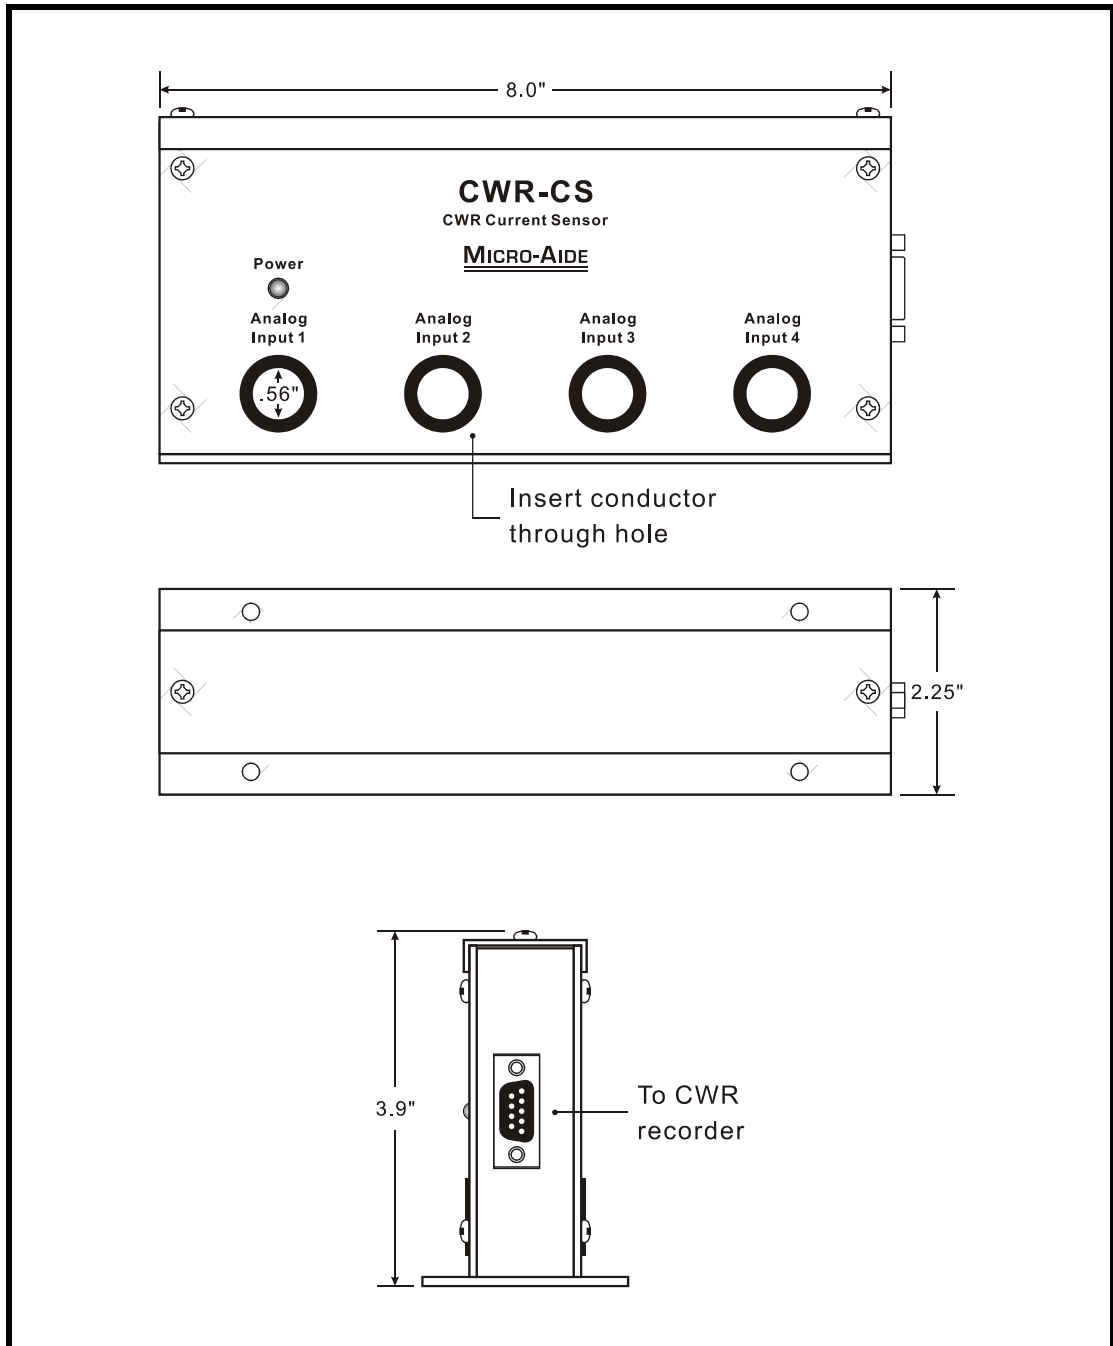

Figure 8 - CWR-CS Front, Top and Side Views
The CWR-CS is an optional accessory that can be used with any MICRO-AIDE CWR series Event Recorder. It is equipped with four general purpose current sensing inputs. Any of the first four Analog Inputs (i.e., A1 - A4) of the CWR-22XL can be individually configured to measure either AC or DC current. Refer to the section entitled “Analog Configuration (A)” on page 23. The CWR-CS provides the hardware by which the voltage sensing Analog Inputs of the recorder are converted to current operation. Figure 8 on page 92 provides an illustration of the CWR-CS.
Figure 8 on page 92 illustrates a typical CWR-CS installation. The unit may be mounted in any orientation (e.g., vertical or horizontal). It is not sensitive to the earth's magnetic field. The base of the unit provides four mounting holes. A shelf or back board makes an ideal mounting platform.